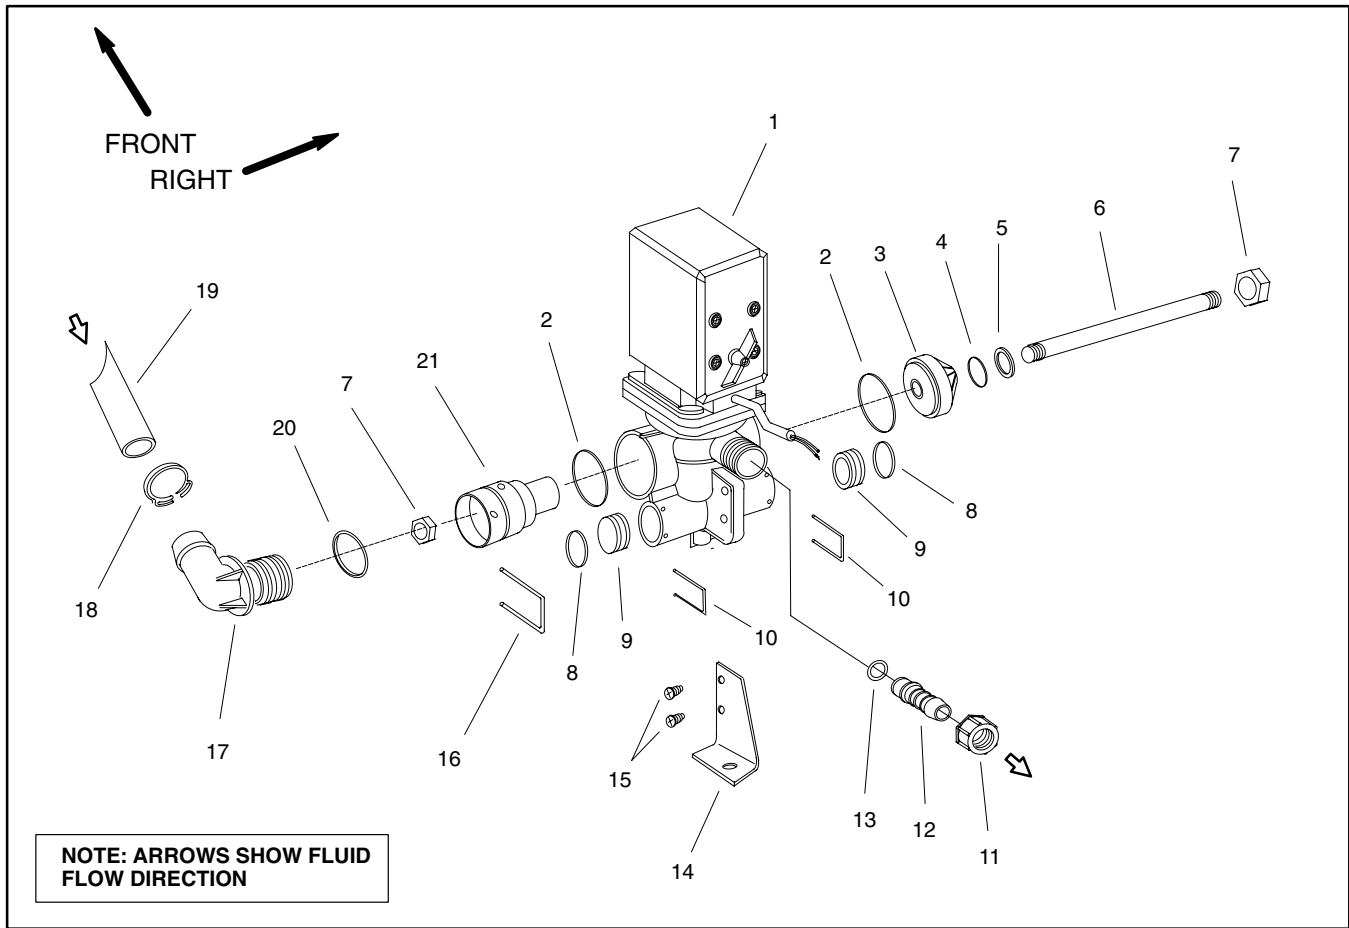

Figure 23
### Disassembly (Fig. 23)
1. Disassemble agitation valve motor as needed using Figures 23 and 24 as guides. Discard all removed o-rings and gaskets.
### Assembly (Fig. 23)
1. Reassemble agitation valve motor assembly using Figures 23 and 24 as guides. Replace all removed o-rings.